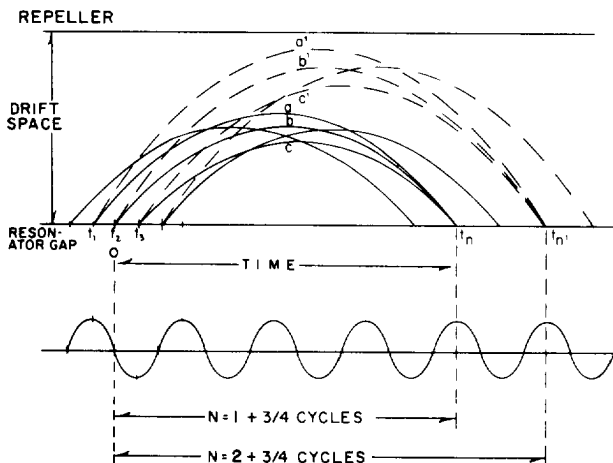

Figure 4-5. Bunching of Electrons
4-17. This bunching of electrons is illustrated in Figure 4-5, which shows the transit time relationship of electrons while in the drift space between the resonator grids and the repeller. Consider an electron (a) leaving the grids at time  $t_1$ . The voltage of the RF signal on the grids is such that the electron receives energy and is accelerated into the drift space. It arrives back at the grids at time  $t_n$ . An electron (b) leaving at time  $t_2$  receives no acceleration because the RF signal is now at zero volts. Thus electron (b) does not travel as far into the drift space and arrives back at the grids at the same time as electron (a). Electron (c) leaving at time  $t_3$  is decelerated since the RF signal has reversed voltage polarity since time  $t_1$ .
4-19. The time that the electrons spend in the drift space is adjusted by changing the repeller voltage. As repeller voltage is increased in the negative direction, electrons a, b, and c spend less time in the drift space. As repeller voltage is decreased electrons a1, b1, and c1 (Figure 4-5) travel farther into the drift space and take a longer time (tn1) to return to the grids. At the low end of the instrument frequency band (up to about mid-frequency), the repeller voltage is adjusted so that the number of oscillations (N) that occur at the grid while the electrons are in the drift space is equal to 1-3/4 Hz. At the high end of the frequency band (above about mid-frequency), the repeller voltage is adjusted so that the number of oscillations equals 2-3/4 cycles. When the oscillator is operating with 1-3/4 cycles drift time it is known as operating in the 1-3/4 repeller mode.